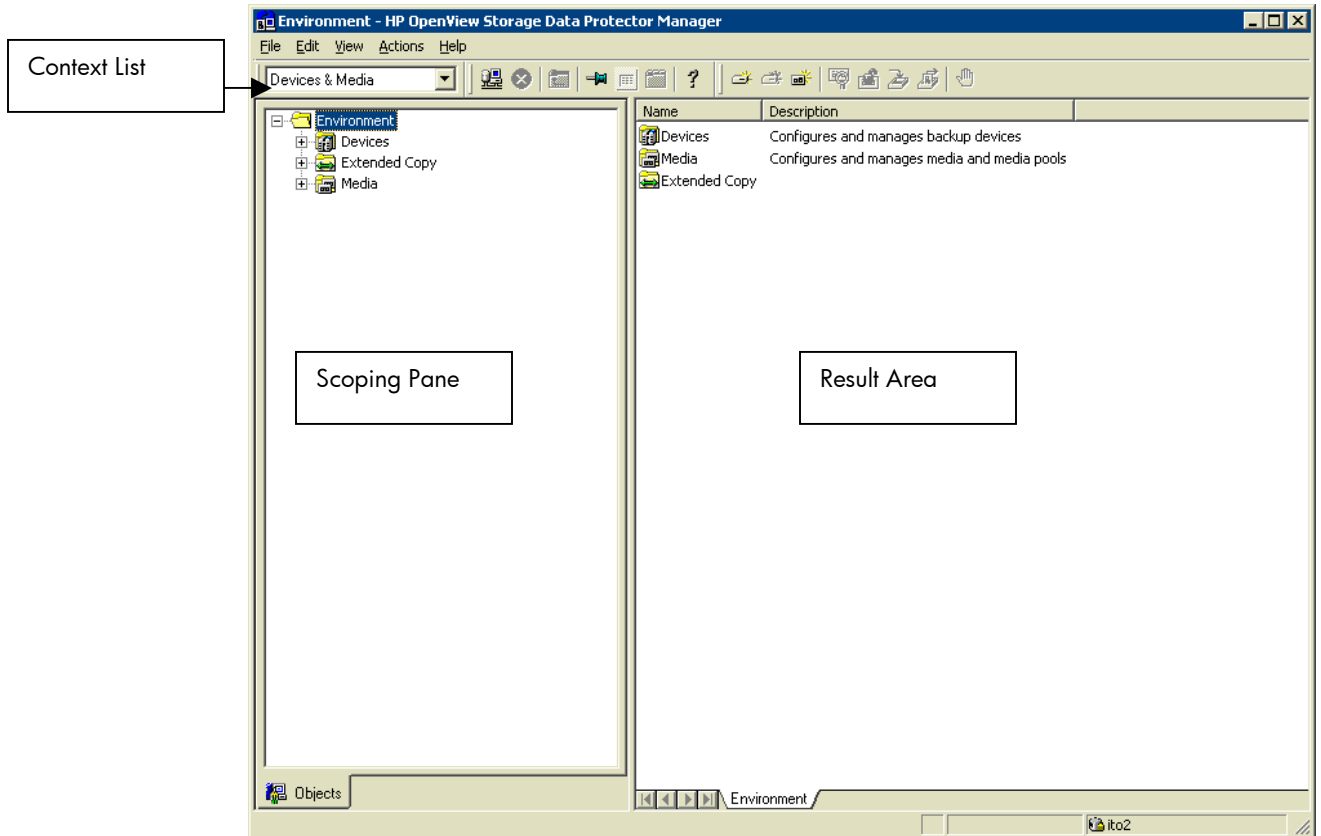

figure 4. HP Data Protector main screen
1. Choose Restore from the Context dropdown menu. See Figure 4.